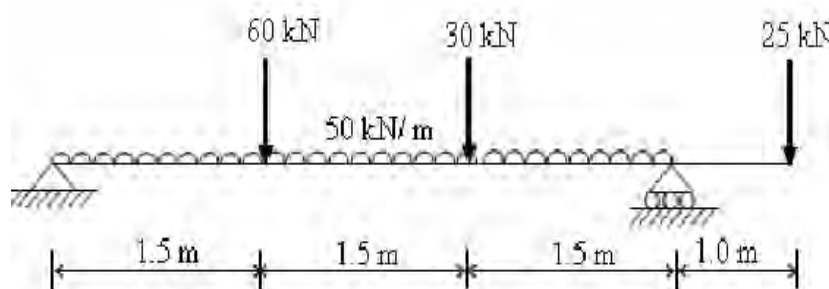

Figure 4:
- Draw the shear force and bending moment diagrams for a beam supported and loaded as shown in figure 4. Also find maximum bending moment. [15]